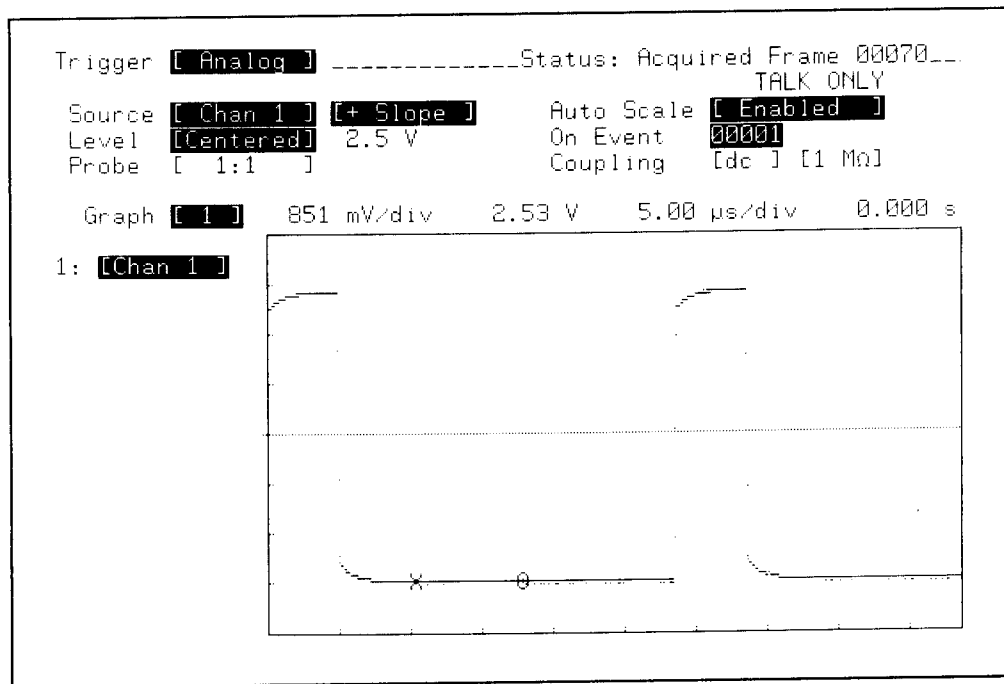

Figure 3-15. Example TRIG Analog Submenu
**TRIG ANALOG SUBMENU.** The TRIG Analog submenu provides selections for all standard analog oscilloscope trigger parameters. An example TRIG analog submenu is shown in figure 3-15.